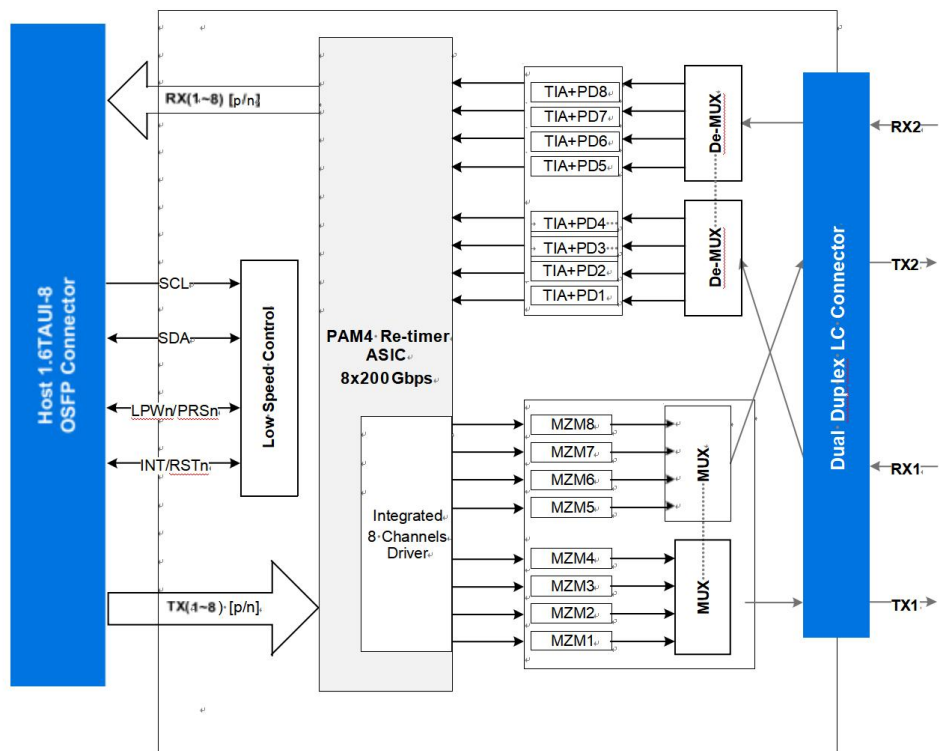

Figure 6 Transceiver Block Diagram
As shown in Figure6, the transmitter path of the transceiver contains an 8x200Gbps 1.6TAUI-8 electrical input with Equalization (EQ) block, integrated re-timer with high swing output, diagnostic monitors, single sipho PIC with 8 independent MZM modulator and 2 CWDM MUX and 4 CW CWDM lasers. The integrated electrical re-timer converts 8 channels of 100 Gbps (PAM4) electrical input data to 8 channels of 100Gbps (PAM4) high output swing optical signals. The sipho PIC modulate 8 channels of optical signal and transfer to 2 optical port. The transmitter complies with EN 60825 and CDRH Class 1 human eye safety compliance.
As shown in Figure6, the receiver path of the transceiver contains 4 PIN photodiodes, trans-impedance amplifiers (TIA), and 8x200G 1.6TAUI-8 compliant electrical output blocks. The PIN-TIA converts 8 channels of 200Gbps (PAM4) parallel optical signals to 8 channels of 200Gbps (PAM4) electrical output data.